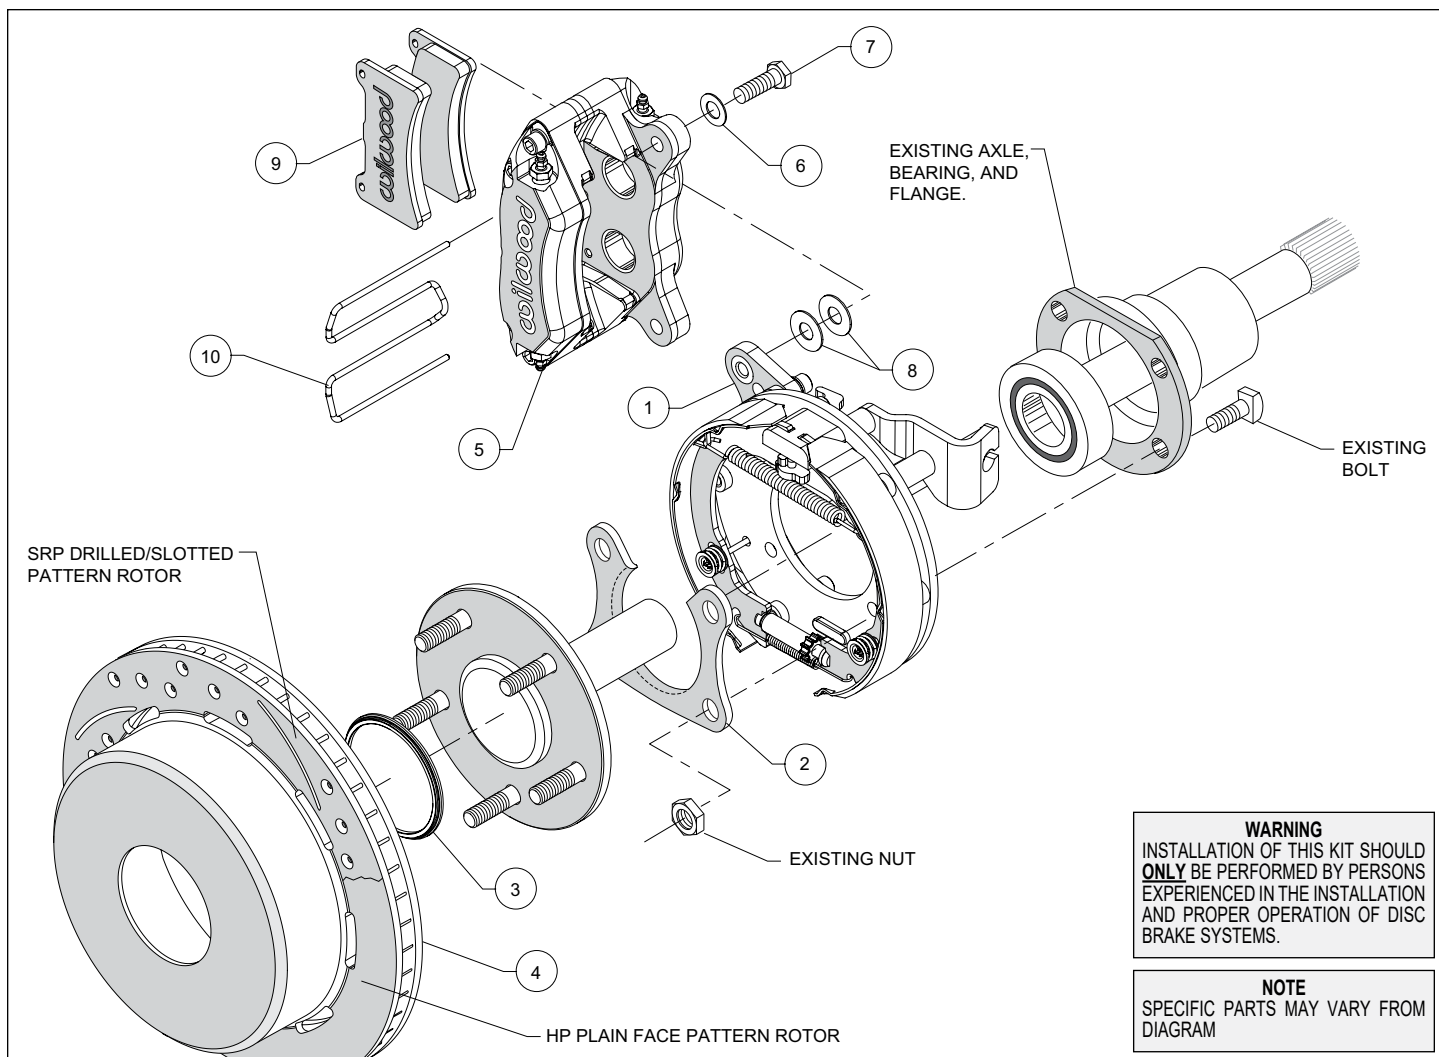
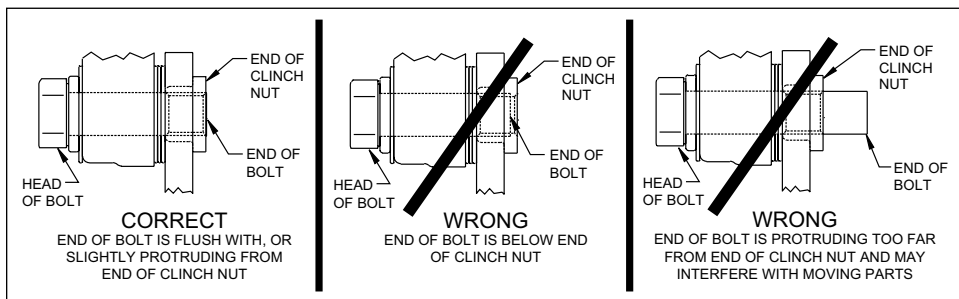

Figure 1. Typical Installation Configuration
Figure 5. Clinch Nut Engagement Diagram
NOTE: Numbers in parenthesis refer to the parts list and Figure 1 on the preceding pages.
CAUTION: All mounting bolts must fully engage clinch nuts. Be sure to check that all bolts are either flush or protruding through flanged side of clinch nut after shimming, Figure 5.
- Orient the bracket assembly (1) as shown in Figure 1 and Photo 1 and slide it onto the axle. Insert the axle and bracket into the axle housing. Ensure that the bracket assembly backing plate fits flush against the axle housing flange.
- Install the bearing retainer (2) with the opening pointing upward and the lip facing inward (toward the bearing), as shown in Figures 1 and 4, and Photo 2. Secure retainer and bracket assembly to the axle housing flange using the Original Equipment Manufacturer (OEM) bolts and nuts, Figure 1. Apply red *Loctite*® 271 to the OEM bolt threads and torque to OEM specifications.
•Slide the rotor registration adapter (3) onto the axle register on the axle flange with the smaller O.D. facing toward the rotor/hat (4), Photo 3. **NOTE:** Verify axle stud size and pattern. Then have a qualified machine shop drill the bolt circle of the hat/rotor to the correct stud size and pattern. Slide the hat/rotor into place, Figure 1 and Photo 4. **NOTE:** The rotor/hat must fit flush against the axle flange or excessive rotor run out may result. Install three lug nuts (finger tight) to keep the rotor/hat assembly in place while continuing with the installation.
•**NOTE:** Please reference the caution statement at the beginning of the assembly instructions. Mount the caliper (5) onto the caliper mounting bracket (1) using bolts (7) and washers (6), as shown in Figure 1. Initially place two .035" thick shims (8) on each bolt between the caliper and the bracket, Photo 5. Temporarily tighten the mounting bolts and view the rotor (4) through the top opening of the caliper. The rotor should be centered in the caliper, Photo 6. If not, adjust by adding or subtracting shims between the bracket and the caliper. Always use the same amount of shims on each of the two mounting bolts. **NOTE:** The end of each bolt must be flush with or slightly protruding from the head of the clinch nut, as shown in Figure 5. If necessary place spare shims between washer (6) and caliper mounting ear to achieve the proper clinch nut engagement. Once the caliper alignment and clinch nut engagement are correct, remove the bolts one at a time, apply red Loctite® 271 to bolt threads, and torque to 40 ft-lb.